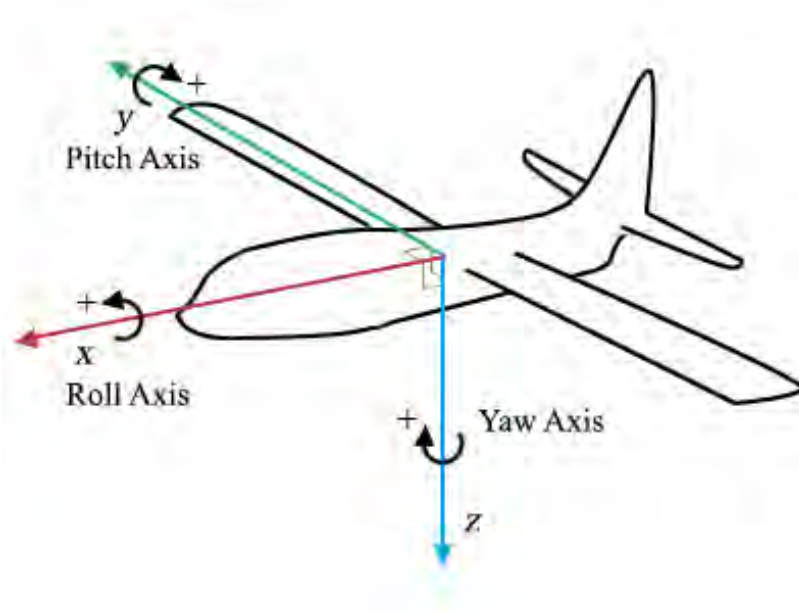

Figure 7.7: Geocentric Body Fixed Coordinates
- The X-axis of the body coordinate system points toward the front of the vehicle as shown in Figure 7.7. It is often along the centerline or longitudinal axis of the vehicle.